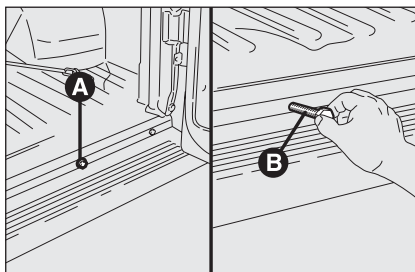
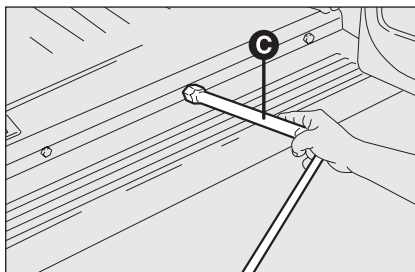
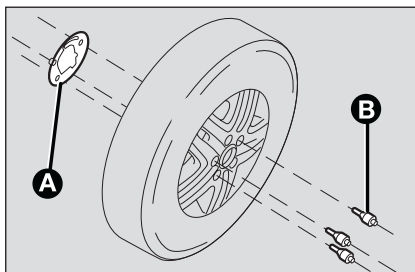

fig. 6
fig. 7
fig. 9c
- ☐ for vans, open 180° the load compartment door and remove the cap from the hole **A**-**fig. 6** to fit the extension **B**-**fig. 6** and the wrench **C**-**fig. 7**;
- fit the extension **B**-**fig. 6** into the hole;
- fit the wrench **C**-**fig. 7** and turn it counterclockwise to lower the spare wheel;
- ☐ introduce the wheel wrench **C-fig. 7** on the extension **B-fig. 6** and turn it clockwise to allow the spare wheel to be raised until it is resting completely on the housing under the floor pan.
- Assemble the relevant plate **A-fig. 9c** on the alloy wheel, fixing it with the supplied screws **B-fig. 9c** using wrench **C-fig. 7**;
– Introduce the wheel disassembly wrench **C-fig. 7** on extension **B-fig. 6** and turn it clockwise in order to allow the spare wheel to rise.
- ☐ remove the extension **B-fig. 6** and re-fit it together with the wrench **C-fig. 7** into the tool compartment;